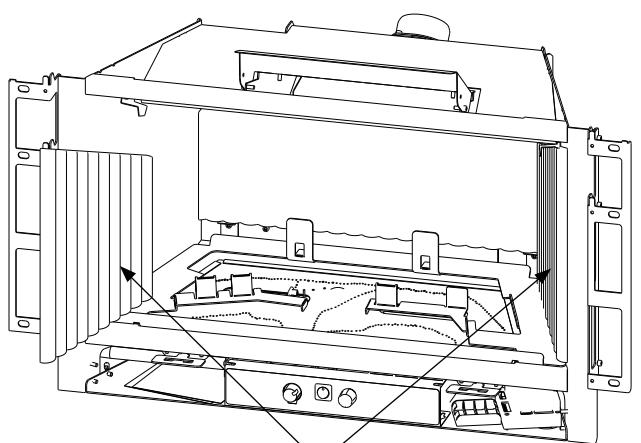

Figure 10 Side Firebox Panels
3. Install the side firebox panels by sliding them into place. See **Figure 10**.